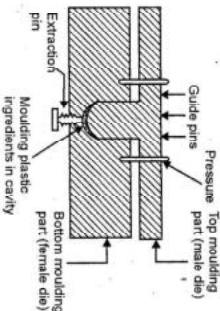

Fig. 1.9.1 : Compression moulding of plastics
- After charging the mould, the two parts of mould are carefully brought together under low pressure. (Refer Fig. 1.9.1.)